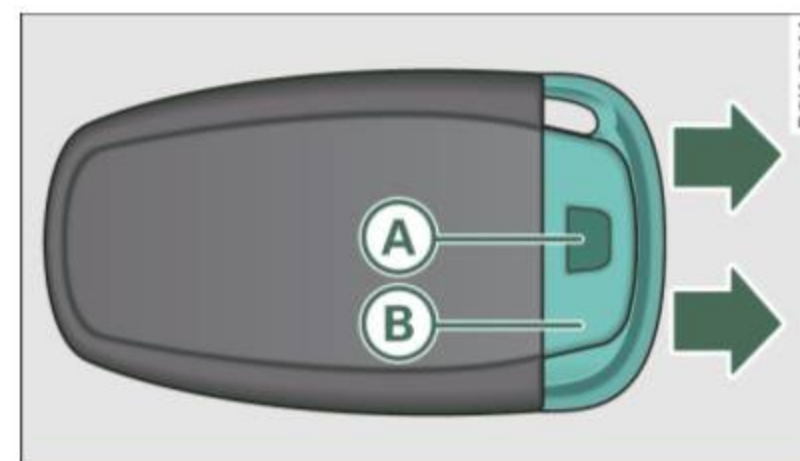

Fig. 27 Remote master key: Removing the mechanical key
- Press the release button **A** ⇒ fig. 27.